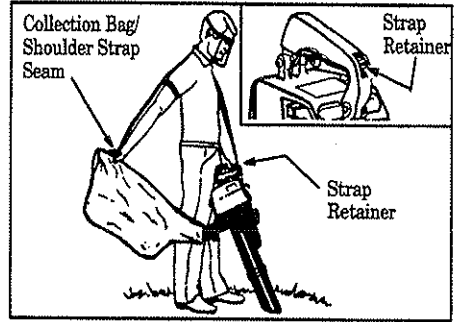

Figure 8
6. Adjust the vacuum collection bag until the shoulder strap is aligned with the upper handle. Figure 8.
1. With your left hand hold the unit in an upright position, supporting the lower vacuum tube on the ground. Figure 8. Make sure the blower outlet and collection bag are positioned on your right-hand side. Figure 8.
2. Place the collection bag strap over your left shoulder and snap the collection bag hook onto the strap retainer in the top handle. Figure 8 (inset).
3. Extend your right arm toward the rear of the collection bag. Figure 8.
4. Adjust the shoulder strap until the collection bag/shoulder strap seam lies between your thumb and index finger. Figure 8.
5. Make sure the Shoulder Strap is adjusted to allow a free flow of air from the elbow tube. Figure 8. If bag is kinked, the unit will not operate properly.